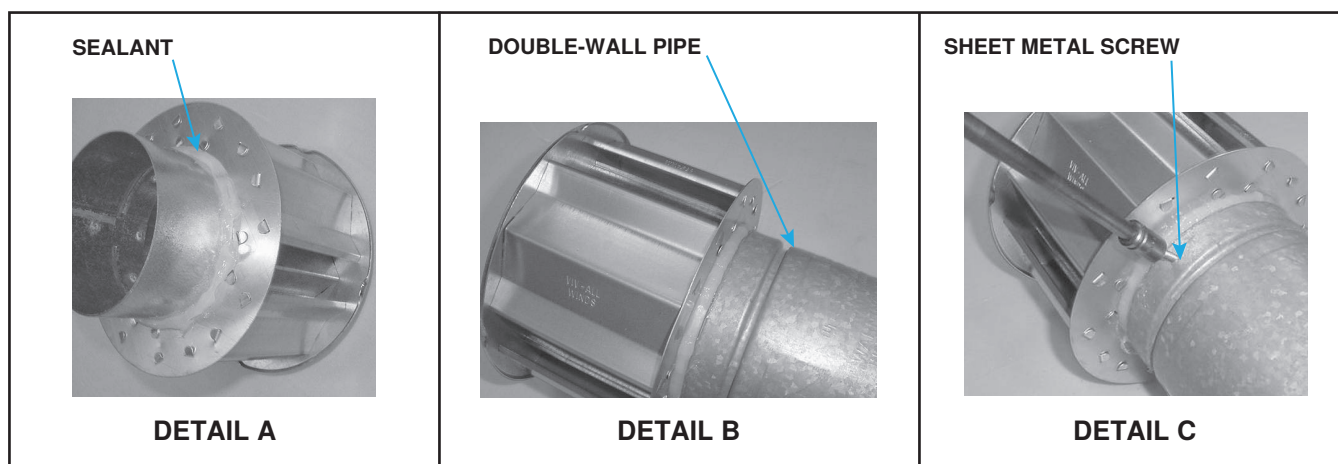

Figure 13. Connecting Double-Wall (Type B) Pipe to Vent Cap
- a. Apply continual 3/8-inch bead of silicone sealant around circumference of vent cap collar (see Figure 13, DETAIL A) to prevent any water inside vent cap from running down double-wall pipe.
- b. Before sealant has any time to dry, insert collar on vent cap as far as possible inside inner wall of double-wall pipe (see Figure 13, DETAIL B).
- d. Secure vent cap to double wall pipe by drilling hole and inserting 3/4-inch-long sheet metal screw into vent cap collar (see Figure 13, DETAIL C). Do not overtighten screw.